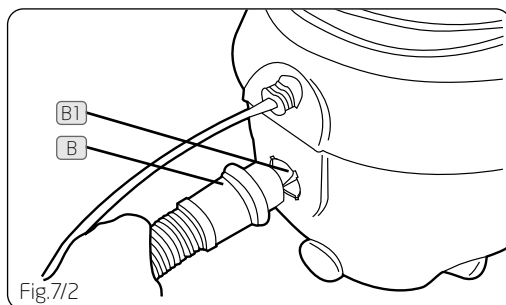

Fig.7/2
3. Push one end of the extension tube into the handle of the hose (Fig.7/3).